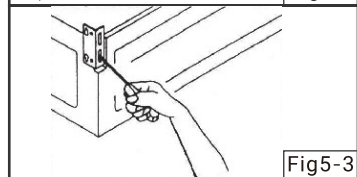

Fig5-3
- Adjust the hangers on the back of the appliance and hang the appliance to the wall, tightly screw the nut of sleeve anchor. (Fig. 5-3)